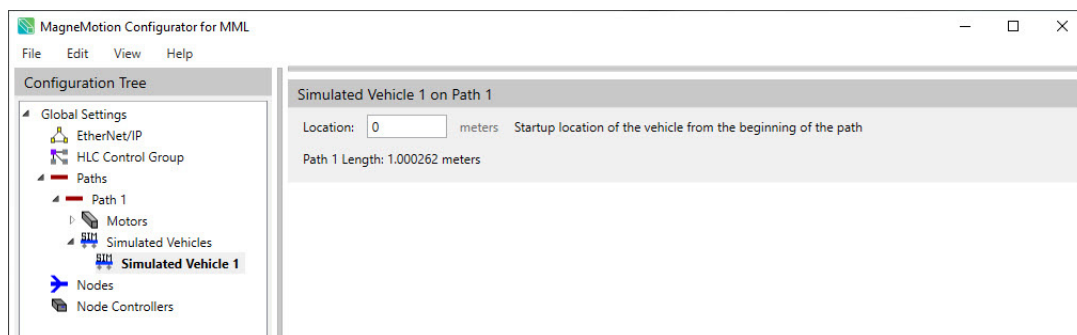

Figure 4-136: Simulated Vehicle Page
*The **Simulated Vehicle Details** page for the selected simulated vehicle is displayed in the Configuration Settings Pane, see Figure 4-136. This page identifies the path that the simulated vehicle is associated with.*